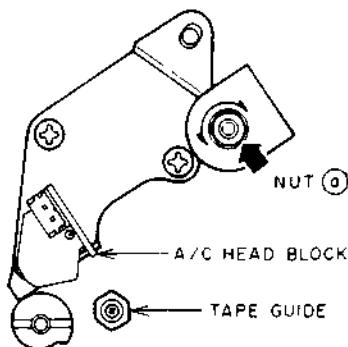

Fig. 4-9
- 3) Slightly turn the NUT (a) shown in Fig. 4-9 to obtain the maximum audio output.